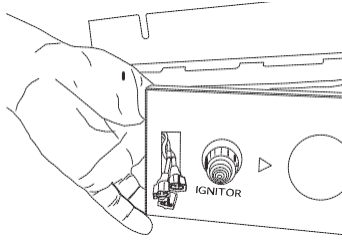

Figure 14 - Inserting Rocker Switch Wires
15. Feed the AUTO, OFF, MAN connectors through the rocker switch hole on the left side of the control panel (see Figure 14).